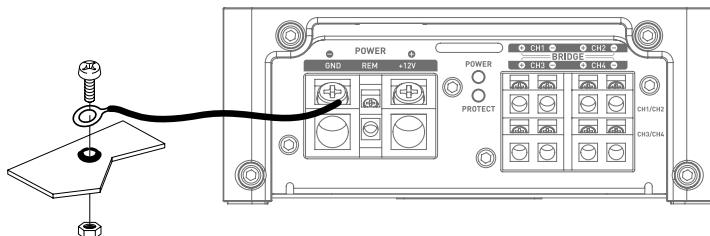

fig. 2
- 10 - Prepare the chassis ground (earth) by removing all traces of paint from the metal surface, thus ensuring a good ground (earth) contact. Ground (earth) connections should be as short as possible and **ALWAYS** connected to metal welded to the vehicle bodywork or chassis (*Fig. 2*). The grounding (earthing) point usually chosen is the one used to connect the negative terminal of the battery to the vehicle chassis.
3.3.2 - Locate the negative (-) power cable. This cable should be as short as possible and ideally should not exceed 1 meter in length, in order to ensure an optimal connection between the amplifier and the vehicle chassis. The cable and its gauge must be in accordance with the table in 3.1. Locate an appropriate ground (earth) point, then sand it to remove all traces of paint or other finish, thus optimising the quality of the connection. Drill through the sheet metal you have previously sanded, making a hole to match the bolt you have chosen, ensuring you are well clear of all cable routes, reservoirs or tanks or other sensitive vehicle parts. Solder and insulate (using heat shrink sleeving) the earth cable to the FPX amplifier earth connector supplied (**Fig. 2**).